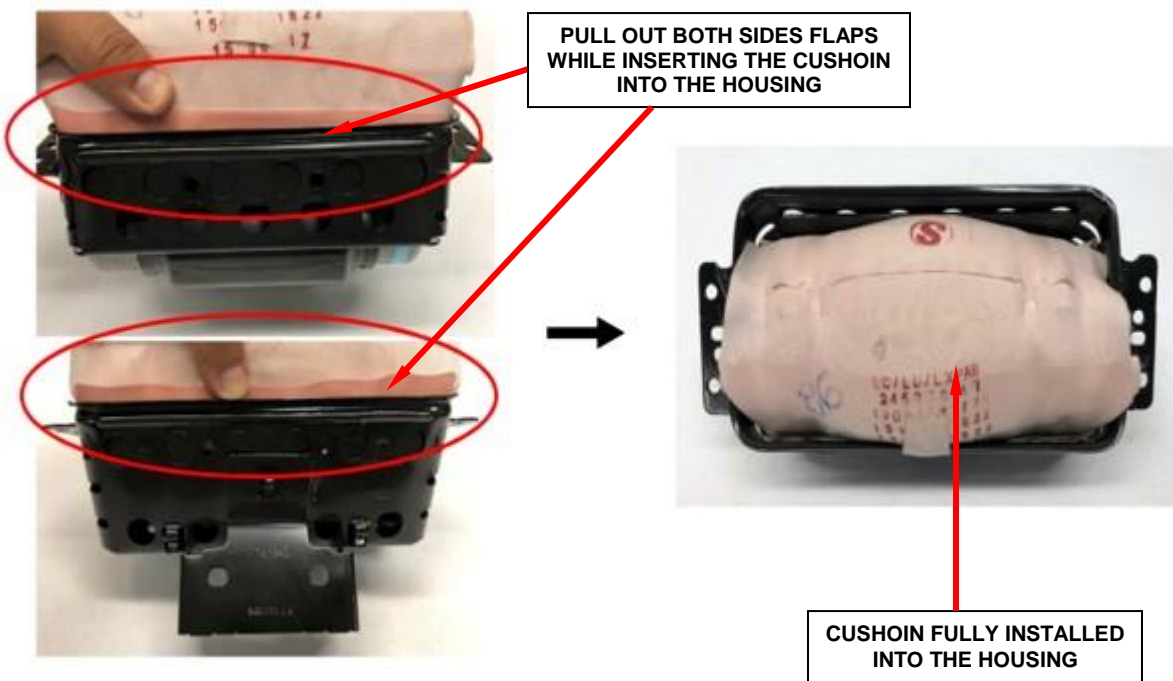

Figure 107 – Side Flaps Must Be Held Out
1. Insert the cushion, pulling out both side flaps (Figure 107).